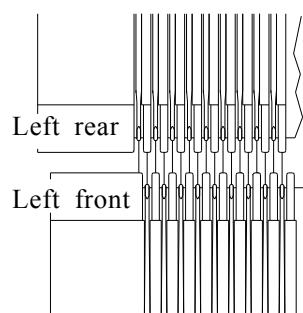

Fig.7.9.1 Initial position of needle bed
The rear bed can be racked four (4) inch(left right each 2 inches), the initial position "0". See the left selvedge of needle bed, the corresponding position that the first needle of rear is on the left hand side of the first needle of front. As shown in Fig.7.9.1. In editing instruction you can choose the left racking or the right racking by one pitch.